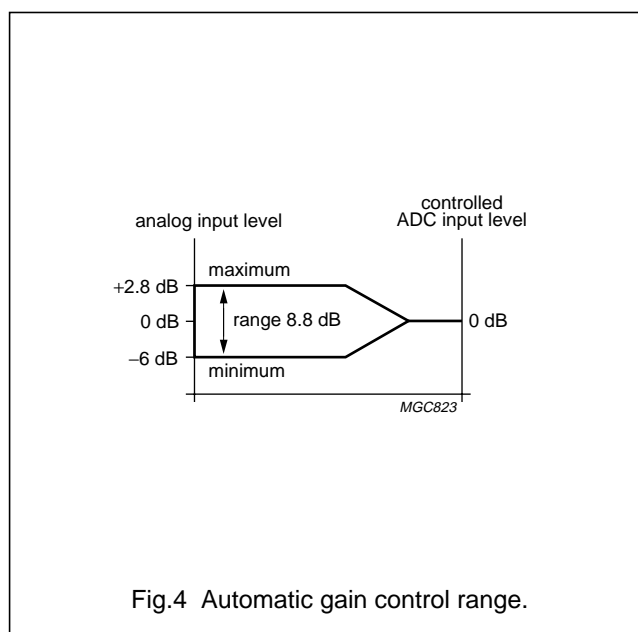

Fig.4 Automatic gain control range.
9.2.2 GAIN CONTROL (see Fig.4)